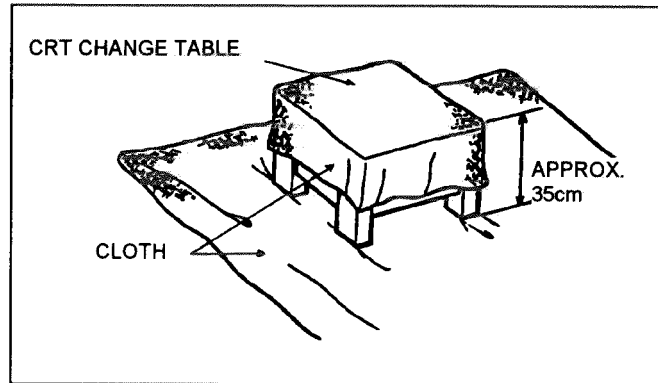

Fig. 4
1. Putting the CRT change table on soft cloth, the CRT change table should also be covered with such soft cloth (shown in Fig.4).